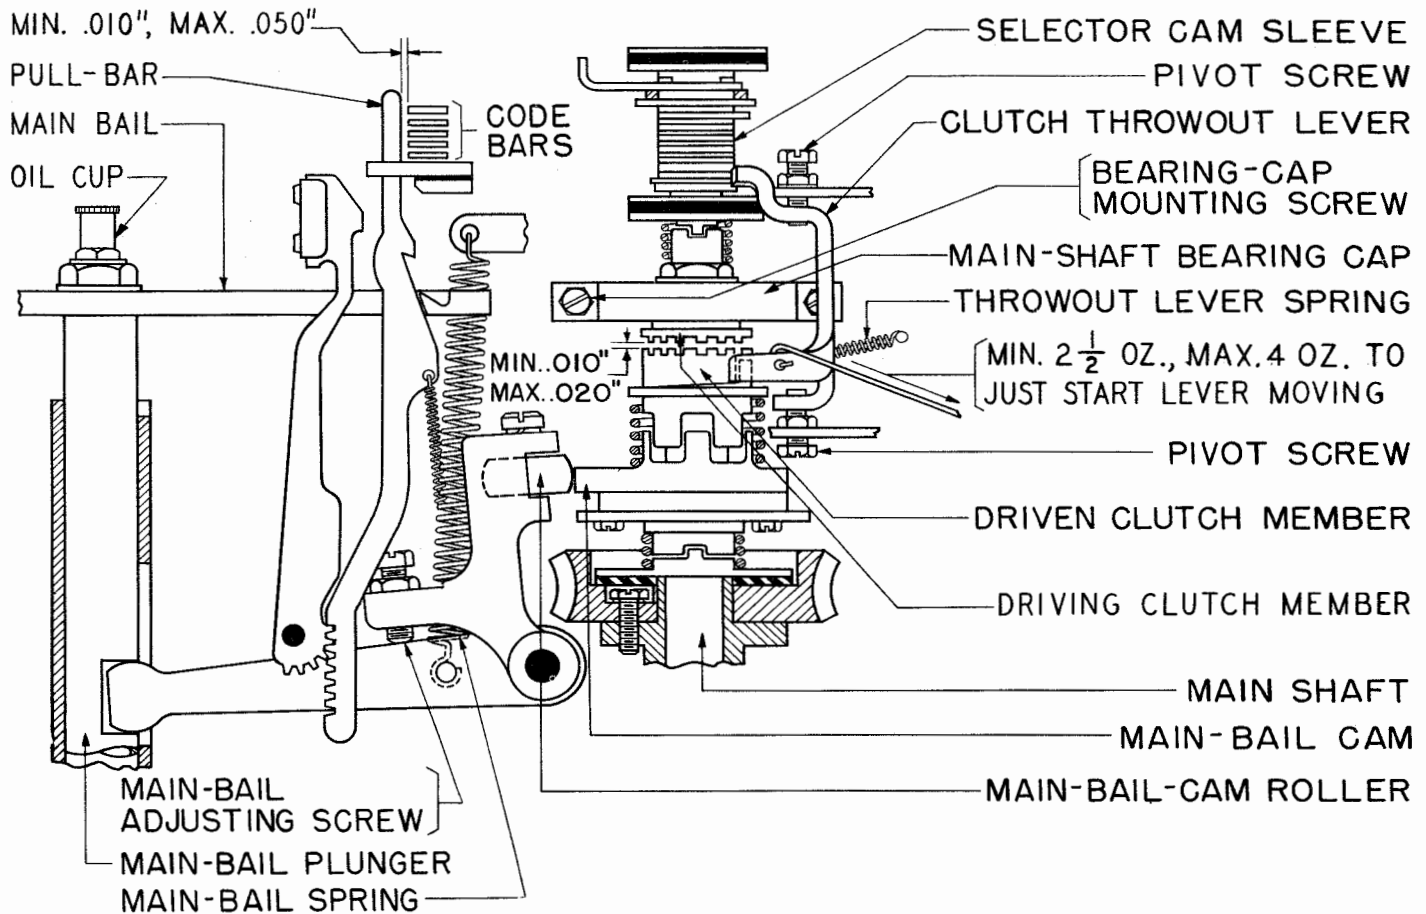

Figure 1
To Adjust: Loosen the upper and lower main-shaft bearing-cap mounting screws, and raise or lower the shaft. Tighten the upper bearing-cap mounting screws and position the bearing retainer on the lower bearing cap so that the bridge of the retainer rests against the upper face of the ball bearing, and clears the lower bearing-cap mounting screws. See Figure 1.
2.02 Main-shaft-clutch Throwout-lever: There shall be a clearance as indicated in Figure 1 between the clutch teeth when the driven-clutch member is fully cammed out of engagement.
2.03 Main-shaft-clutch Throwout-lever Spring: It shall require a pull as indicated in Figure 1 to start the clutch-throwout lever moving.
There shall be a clearance as shown in Figure 1 between the unselected pullbars and the projections on the codebars.
To Adjust: Loosen the mainbail adjusting-screw locknut and position the screw. See Figure 1.